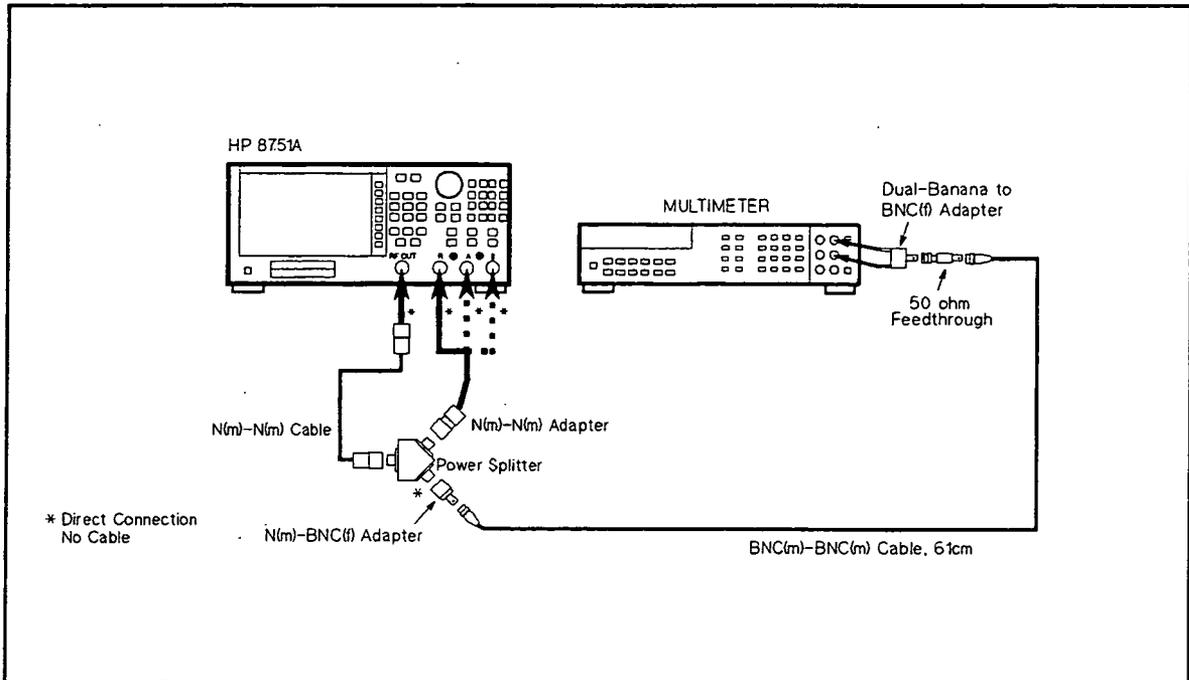

Figure 2-18. Absolute Amplitude Accuracy Test Setup 1
1. Connect the Digital Multimeter as shown in Figure 2-18.
- Disconnect the Power Sensor from the Power Splitter, and connect the Digital Multimeter as shown in Figure 2-18.
18. Disconnect the Power Sensor from the Power Splitter, and connect the Digital Multimeter as shown in Figure 2-18.